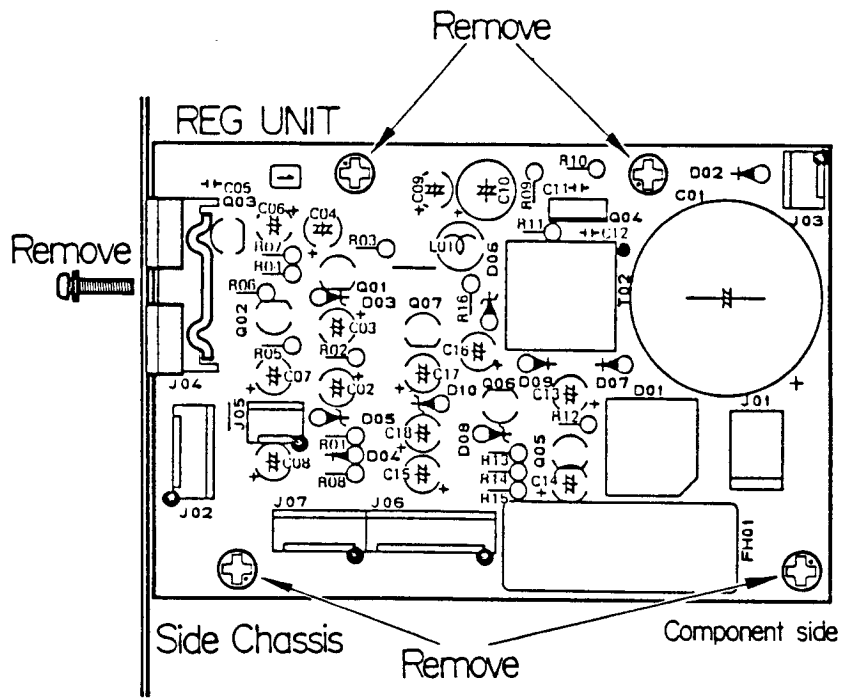
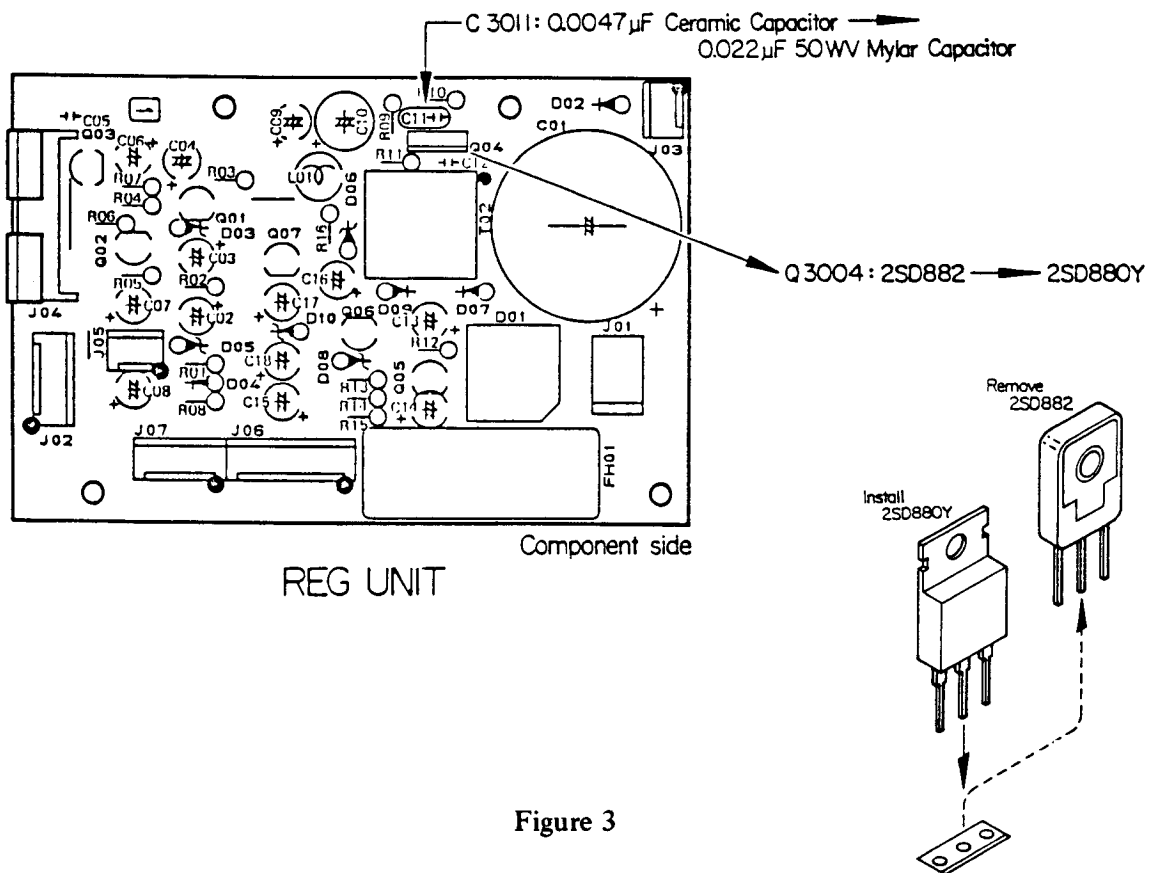

Figure 2
Figure 3
- (1) Disconnect the power cord and remove a backup battery from the compartment in the rear panel.
- (2) Remove the two screws affixing the carrying handle, and remove the handle.
- (3) Remove the lower two screws from the left side and two screws from the bottom of the case, and remove the bottom cover.
- (4) Referring to Figure 2, remove the five screws affixing the REG Unit, to allow access to the solder side of the Unit.
- (5) Remove 0.047 μ F ceramic capacitor C3011, and replace it with a 0.022 μ F, 50WV Mylar type.
- (6) Remove type 2SD882 transistor Q3004, and install a type 2SD880Y in its place. Note that the packaging and pinout of these two types are different, as shown in Figure 3.
- (7) Replace the REG Unit and its five screws, and then the bottom cover, handle and screws removed in steps (2) and (3). Replace the backup battery and the power cord.